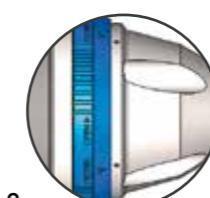

Fig. 2
4. Turn the blue ring to CLOSE (Fig. 2).